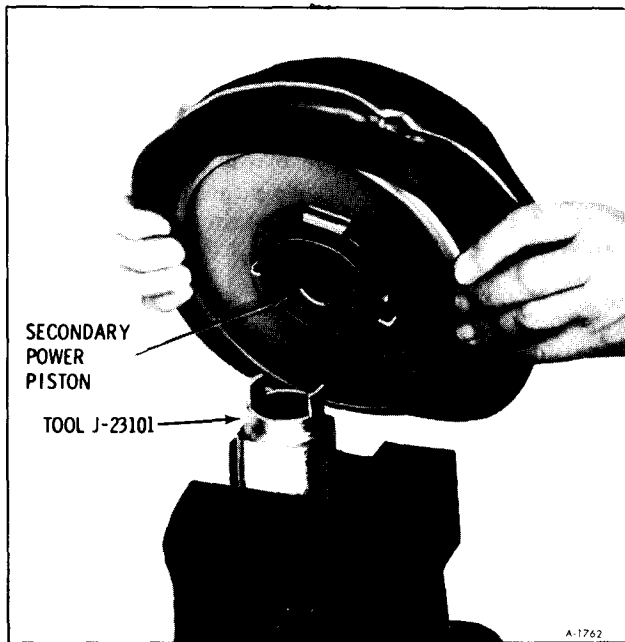

Figure 38—Positioning Secondary Power Piston
11. Mount Piston Unlocking Tool, J-23101, in a vise with wide jaws up. Position the secondary power piston so that the two radial slots in the piston fit over the jaws of the tool. (figure 38)
19. Mount Tool J-23101 in a vise with large jaws up. Position the secondary power piston so that the radial slots in the piston fit over the jaws of the tool. (figure 38) Apply a light coat of lubricant to the tube of the secondary power piston.